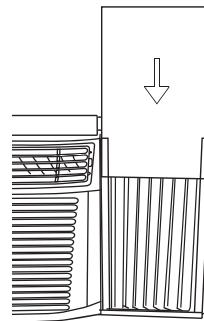

FIG. 22
**STEP 10.3:** Slide the insulation panel you just cut into the accordion panel (curtain). The side of the insulation panel with the pattern on it should face indoors. (Fig. 22)